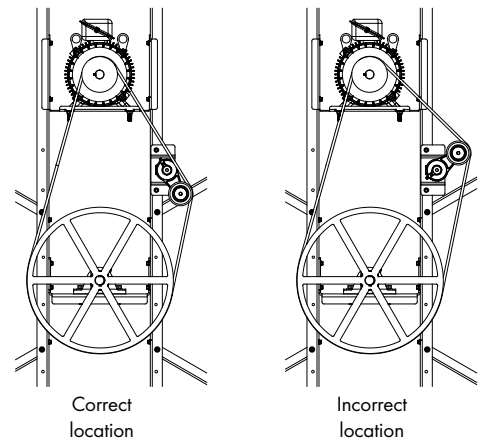

Figure 8A
- 8) **BELT TENSIONING:** Check condition of belt, if worn, replace belt. If belt is in good condition then make sure the tensioner is in the correct position. Looking from the outlet/prop side of the fan, the correct position of the tensioner is approximately the 5 o'clock position. See Figure 8A.